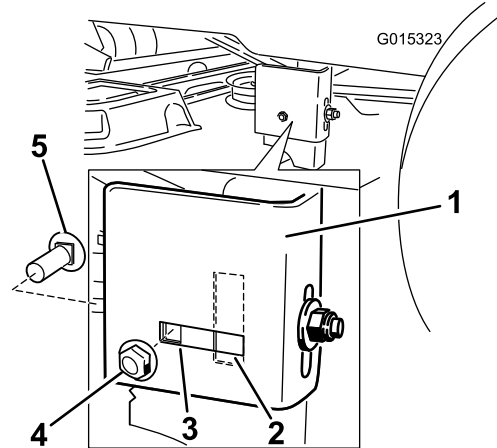

Figure 49
7. Move to the left side of the machine. Remove the side carriage bolt and locking nut from the fixed position and install it into the rear, slotted position (Figure 49). Leave the lock nut slightly loose.
8. Loosen the rear locking nut on the hanger bracket just enough to allow the hanger to be adjusted (Figure 49).